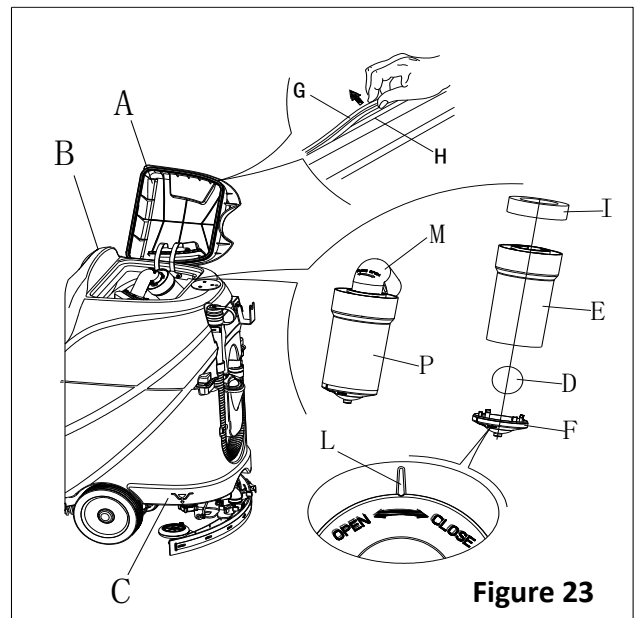

Figure 23
2. Ensure that the machine is off and the ignition key (40) has been removed.
3. Turn the recovery tank lid (A, Figure 23) 90 degree position where it can be took off from the tank, and then take down the float ball filter (P) from the tank.
4. Clean the recovery tank lid (A), recovery tank (B), clean water tank (C) and the float ball filter support frame (E). Empty the recovery tank with the drain hose (15).
5. If necessary, follow the symbols "OPEN" and "CLOSE" as shown in Figure 23 to open the bottom cover (F) of float ball filter and then clean the float ball (D), filter support frame (E) and filter sponge (I). After cleaning, fix the float ball (D) into the filter support frame (E) and then align the mark groove (L) of the bottom cap (F) of the float ball filter with the mark groove (L) of the float filter support frame (E). Screw the bottom cap of the float ball filter tight, and fix the filter sponge (I) onto the float filter support frame (E). Finally, connect it to the sewage suction hose (M).
7. Check whether the contact surface of sealing strip (G) is integrity and sealing is sufficient. If necessary, take the sealing strip of the tank out of the groove (H) and replace it. Assembly the new sealing strip as shown in Figure 23, the joint should be back in the middle area.
8. Close the recovery tank lid (A).